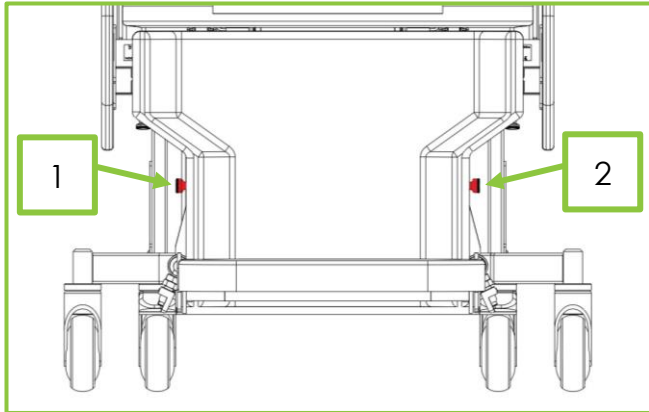

Figure 16
3. Locate the footplate height adjustment plungers on either side of the legrest (Fig 16, Items 1&2).